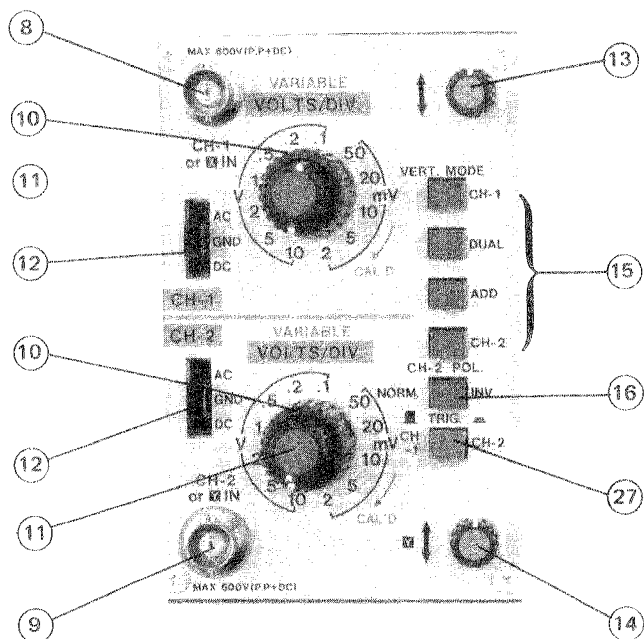
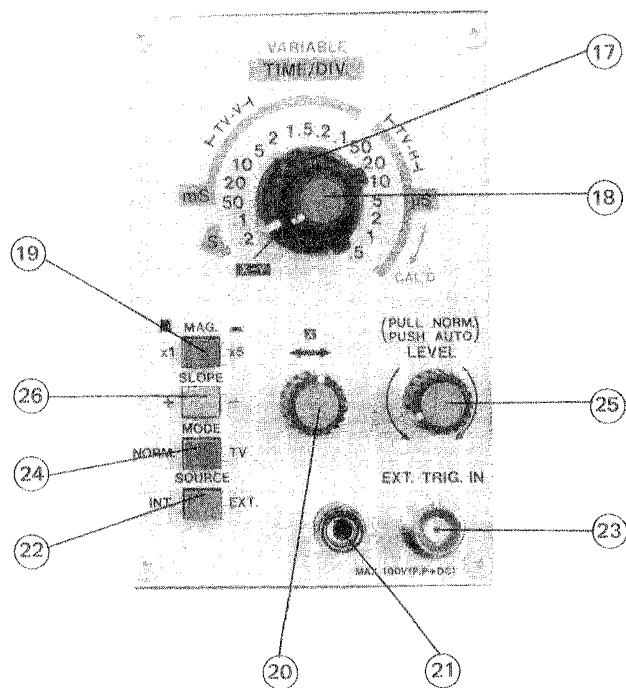

Figure 2-2. Vertical amplifier block
Figure 2-3. Sweep and trigger block
Refer to Figure 2-2 for reference (8) to (16).
- ⑧ CH-1 or X-IN connector For applying an input signal to vertical-amplifier channel 1, or the X-axis (horizontal) amplifier during X-Y operation.
- ⑨ CH-2 or Y-IN connector For applying an input signal to vertical-amplifier channel 2, or the Y-axis (vertical) amplifier during X-Y operation.
Refer to Figure 2-3 for references (17) to (26), and to Figure 2-2 for reference (27).
- ⑰ TIME/DIV switch To select either the calibrated sweep rate of the timebase, or X-Y operation.
- ⑱ VARIABLE control Provides continuously-variable adjustment of sweep rate between steps of the TIME/DIV switch. TIME/DIV calibrations are accurate only when the VARIABLE control is in the detente, or fully clockwise position.
- ⑲ MAG switch To expand the horizontal deflection by a factor of 5 when pressed in, thus increasing horizontal sweep speed by 5 times for X-Y operation. The effective timebase sweep rate is reduced by a factor of 5, making 0.1 μ S per division the highest sweep speed available.
- ⑳ Horizontal or X-Position control To adjust the horizontal position of the trace(s) displayed on the CRT. Clockwise rotation moves the trace(s) to the right. During X-Y operations, this control must be used for X-axis positioning.